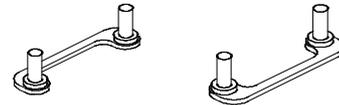

Figure 2-1-2
- **RM Attach Mount (RMAM)**- Bolt/Bridge assemblies inserted up through the bottom of the mainboard. RM secures to RMAM (two RMAM required per RM). (Refer to Figure 2-1-2)